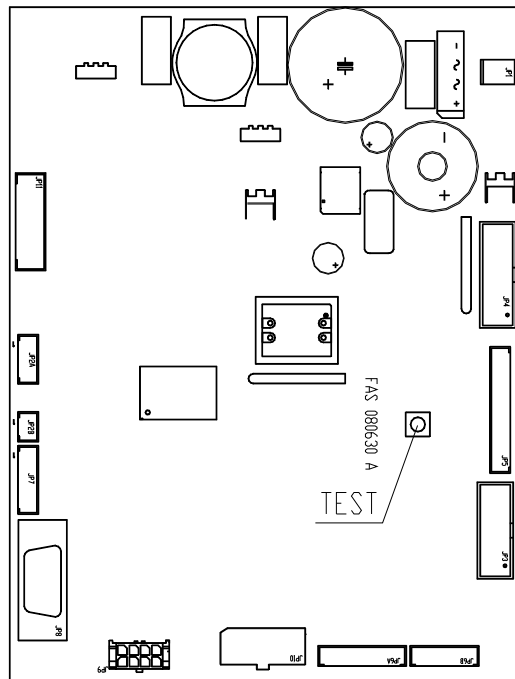

FIG. 3
- If the message "MEMORY CLEARED" appears on the display, press the button on the main board inside the box of the coin dispensing mechanism (see fig. 3) to initialize the memory. The message "DOOR OPEN, MACHINE IN MAINTENANCE MODE" appears on the display. The machine automatically starts a self-test. If no errors are identified, the column moves into the starting position and the machine is ready for use.